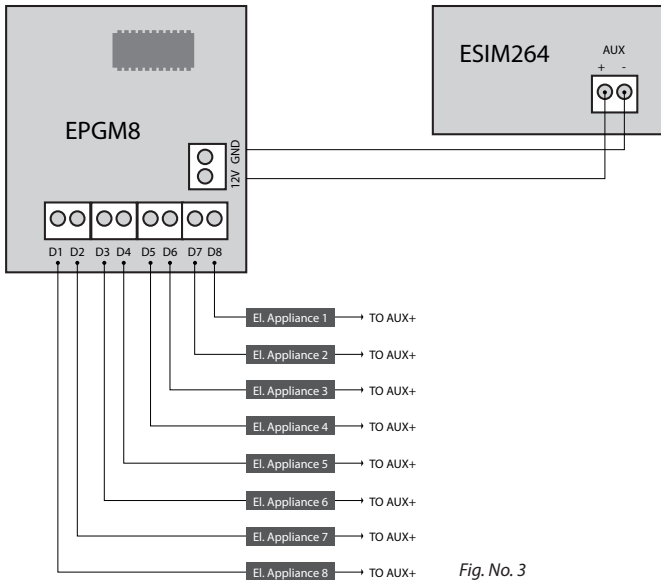

Fig. No. 3
3. Connect EPGM8 12V positive power supply contact with ESIM264 alarm system AUX+ contact and EPGM8 GND contact with ESIM264 alarm system AUX- contact. (see Fig. No. 3).
4. Connect the electrical appliances to D1 – D8 PGM outputs. (see Fig. No. 3)